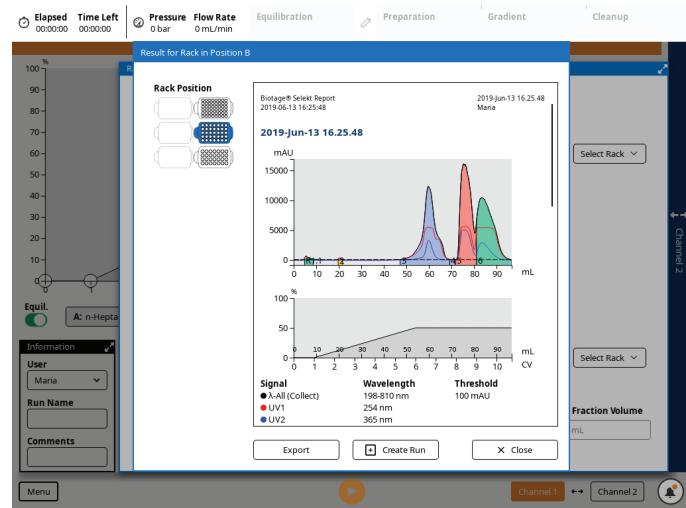

Figure 21. The report for the last run performed on the rack in position A. (The example shows a system with an extended collection bed.)
2. Expand the rack panel and press **Previous Runs**. The **Result** view opens; see Figure 21.